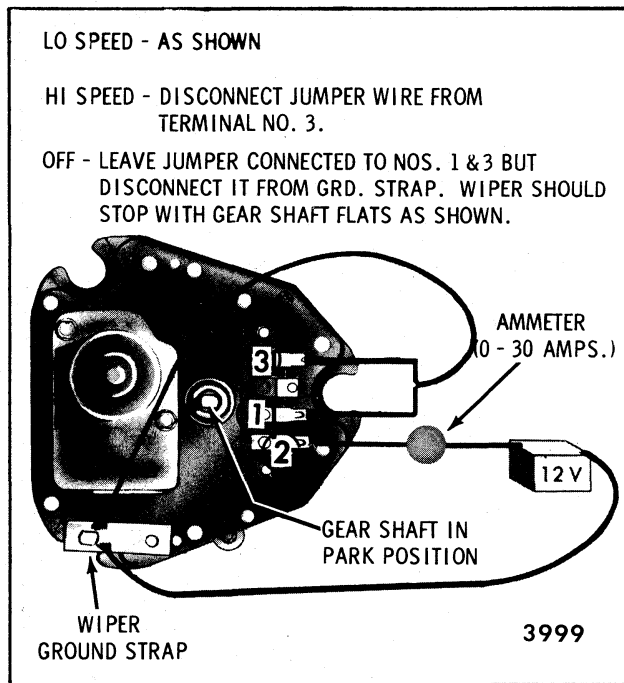
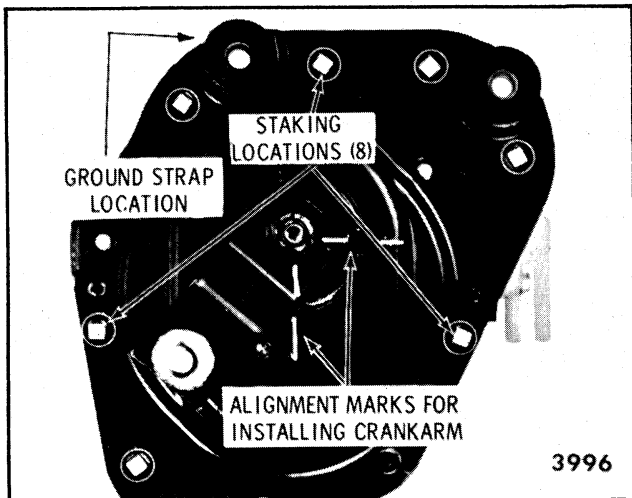

Fig. 2-6-Jumper Wire Connections
Fig. 2-14-Staking Locations
3. Disconnect wiring harness from wiper and try operating wiper as shown in Figure 2-6.
DIAGNOSIS CHART - WIPER OFF CAR - FIGURES 2-6, 2-11 AND 2-12
4. Drill out staking that secures gear box cover (Fig. 2-14). Use a 9/32" drill.
- To reassemble crank arm in proper position, operate wiper to park or "OFF" position (Fig. 2-6) and install crank arm so that index marks on crank arm line up with those on the gearbox cover (Fig. 2-14).